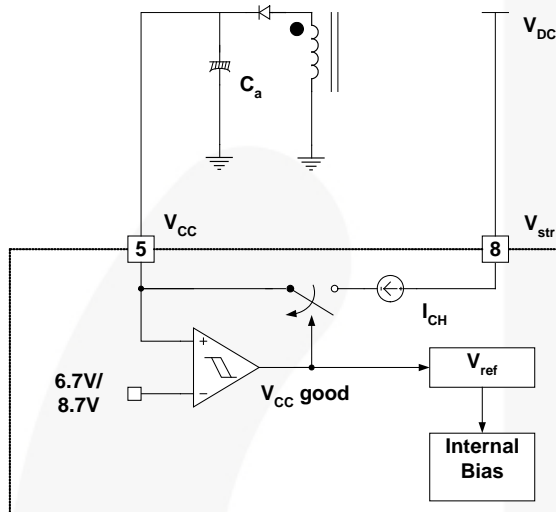

Figure 13. Startup Block
**1. Startup:** At startup, an internal high-voltage current source supplies the internal bias and charges the external capacitor ( $C_a$ ) connected to the  $V_{CC}$  pin, as illustrated in Figure 13. When  $V_{CC}$  reaches 8.7 V, the FPS begins switching and the internal high-voltage current source is disabled. The FPS continues normal switching operation and the power is supplied from the auxiliary transformer winding unless  $V_{CC}$  goes below the stop voltage of 6.7 V.